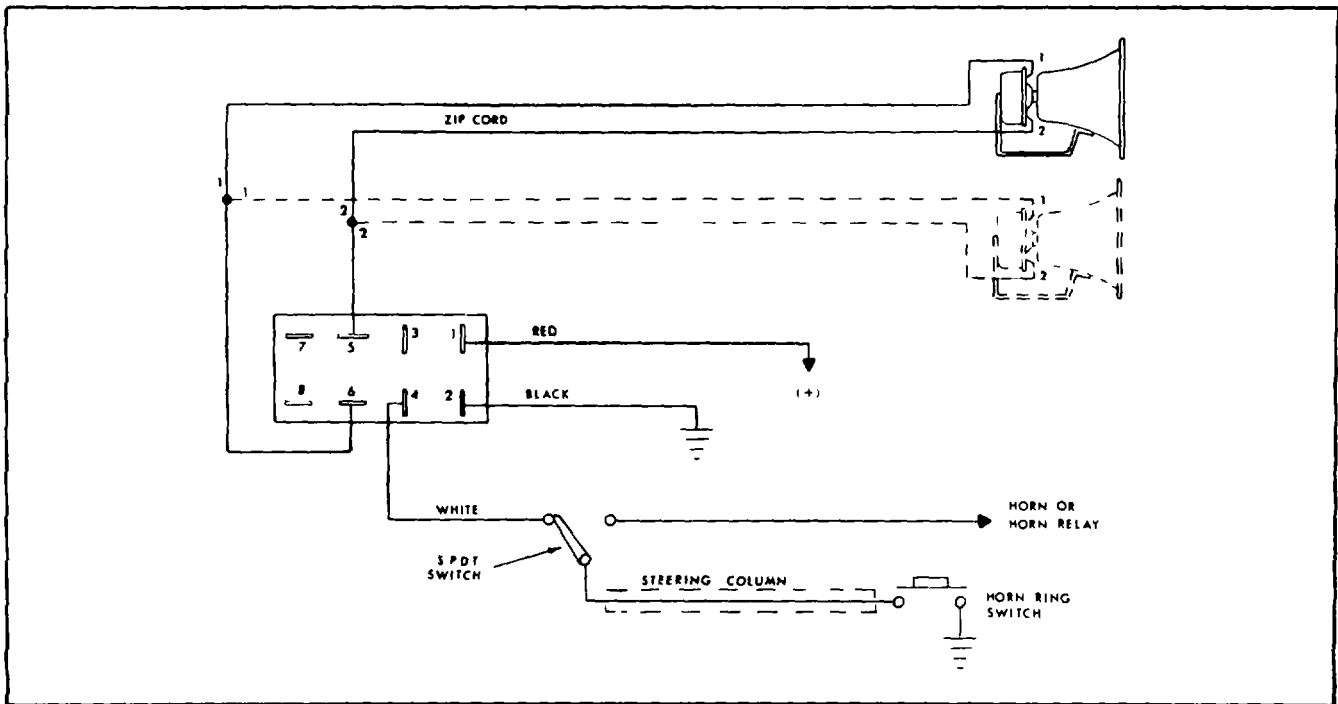

Figure 6. Power Cable Connections - Horn Ring Control (negative ground vehicles with grounded horn ring)
Included with the electronic siren is a SPDT switch (toggle switch) which when properly installed, allows the user to activate the siren by depressing the horn button. When installing the horn switch in a vehicle with a negative ground system with a grounded horn ring, connect as shown in figure 6. See figure 7 when installing the horn switch in a positive ground vehicle with a grounded horn ring, or in a negative ground vehicle with an ungrounded horn ring. Locate a convenient mounting position for the toggle switch (supplied) and proceed as follows:
3. Connect the other terminal of the toggle switch to the white lead (P3, pin 4), if the vehicle has a negative ground system with a grounded horn ring (see figure 6). When the vehicle has a positive ground system with a grounded horn ring or a negative ground system with an ungrounded horn ring, connect this terminal of the toggle switch to the green lead (P3, pin 3) (see figure 7).
4. Connect the center terminal of the toggle switch to the horn ring switch as shown in figure 6 or 7.